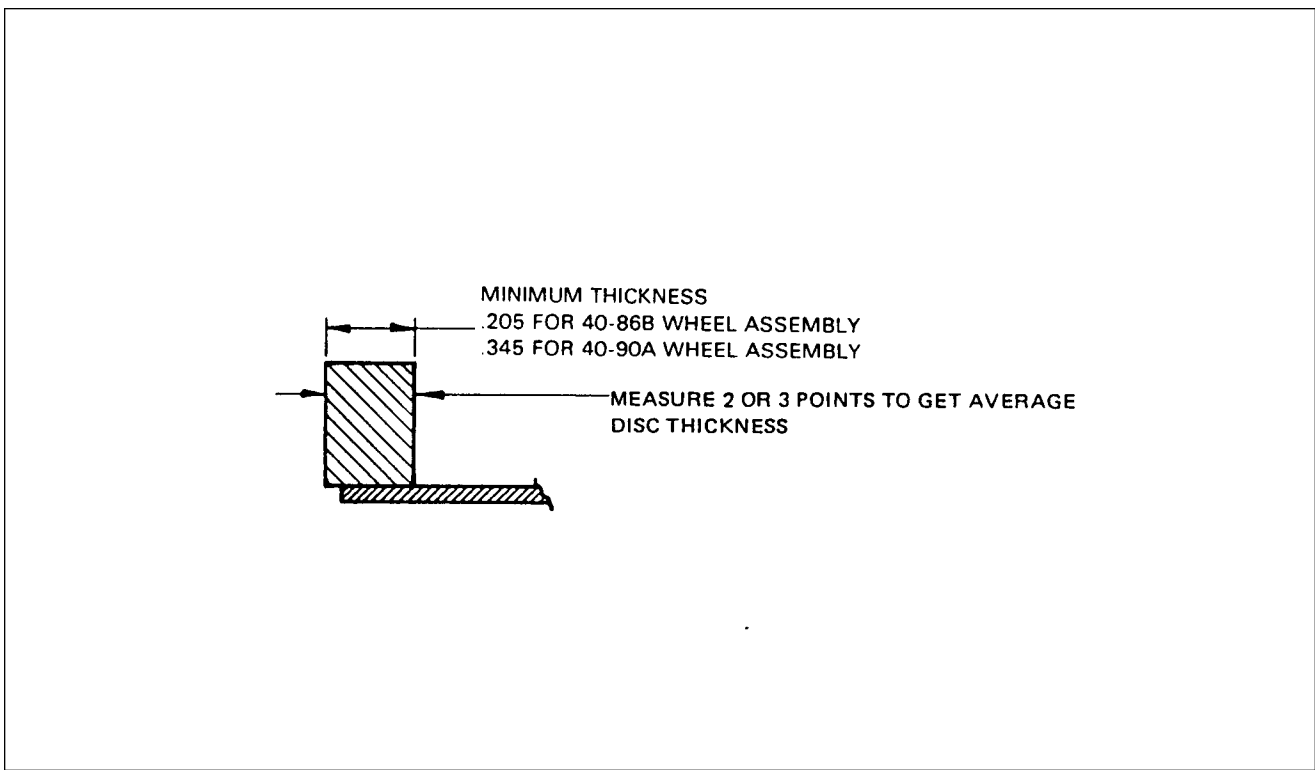

Figure 32-12. Brake Disc Minimum Thickness
4. Check brake disc for grooves, scratches, or pits. Minimum thickness of 164-20 disc used on 40-86B wheel assembly is 0.205. For 164-22A disc used on 40-90A wheel assembly, minimum thickness is 0.345. (Refer to figure 32-12.) A single groove or isolated grooves up to 0.031 of an inch deep do not necessitate replacement, but a grooving of entire surface will reduce lining life and lining should be replaced. If a heat crack exceeding 0.800 of an inch in length of if crack depth exceed 0.210 of an inch, disc must be replaced. If crack depth is not measurable, replace disc if crack length exceeds 0.400 of an inch. Should any heat crack extend into welded seam between flange and cup, replace it immediately. If it is necessary to remove the wheel disc, refer to Removal and Disassembly of Main Wheel.
REMOVAL OF MASTER CYLINDER (HAND BRAKE) (figure 32-12)
INSTALLATION OF MASTER CYLINDER (HAND BRAKE) (figure 32-12)